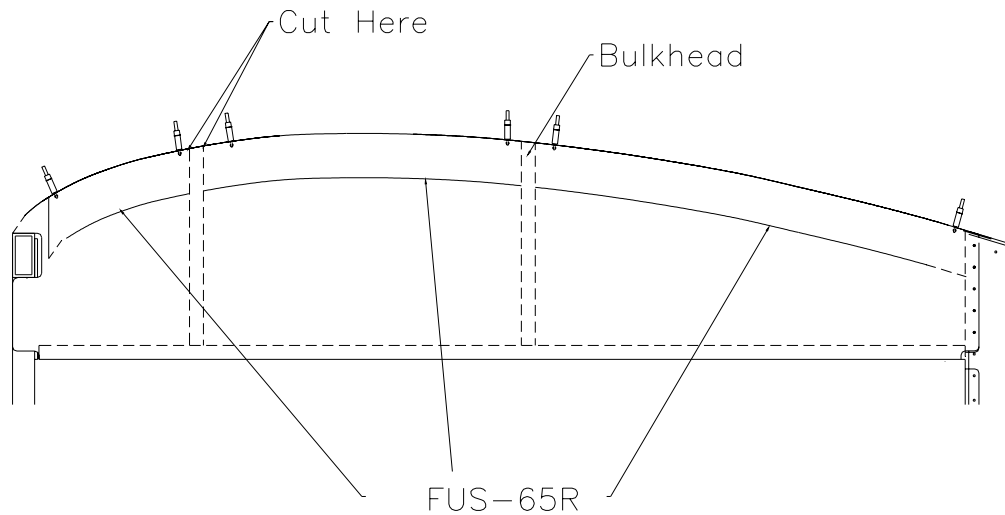

Figure 20.12.1
1) Cut the flap rib (FUS-65R) to fit between front three bulkheads. Figure 20.12.1.